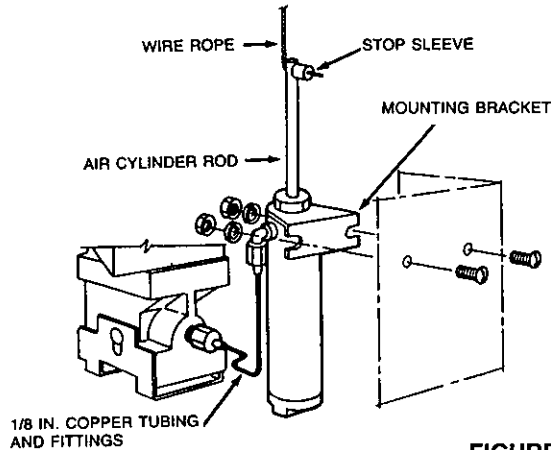
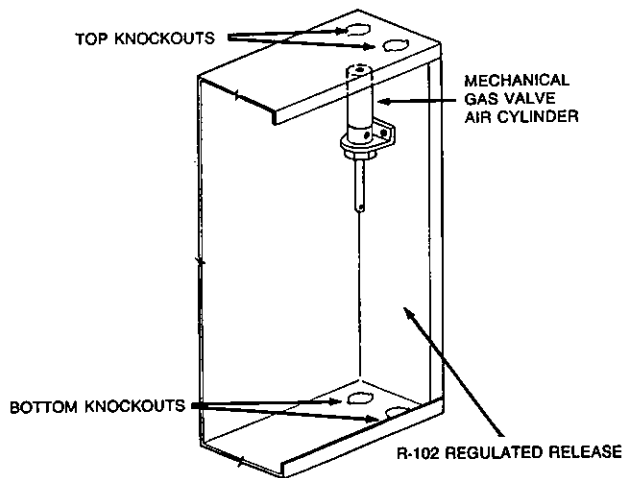

FIGURE 64
FIGURE 65
4. Locate air cylinder and bracket assembly over the two 7/32 in. (.6 cm) holes on right side of the enclosure. Assemble with screws, lockwashers, and nuts. Wrench tighten. See Figure 64. Air cylinder(s) can also be mounted in the inverted position, allowing for direct exit out the knockout(s) in the bottom of the enclosure. See Figure 65.
6. Install the necessary 1/8 in. copper tubing and fittings for each air cylinder to the accessories piping arrangement on the regulated release mechanism. See Figures 64 and 66.
9. Beginning at the regulated release assembly, thread the end of the wire rope through hole provided in air cylinder rod. See Figure 64.
12. With the end of wire rope already threaded through hole in air cylinder rod, slide stop sleeve (Part No. 26317) onto wire rope and leave loose. Do not crimp stop sleeve at this time. See Figure 64.
14. Raise air cylinder rod "UP" to its maximum extended position. See Figure 64.
16. Slide stop sleeve against air cylinder rod, make certain all slack is removed from wire, and crimp stop sleeve. See Figure 64.